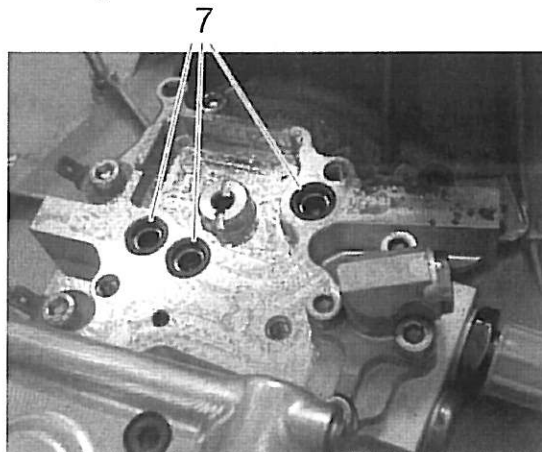

Figure 6
2. *Fit one O-ring (item 7) into each of the three designated places in the ground plate. See Figure 6.*